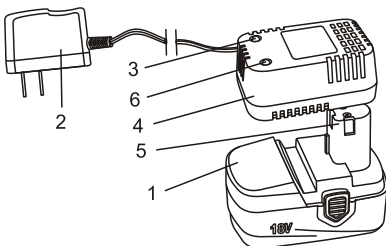

Fig. 1
1. Place the battery (1) in a dry location near a 120 V 60 Hz electrical outlet (Fig. 1)
2. Plug the battery charger transformer (2) into the 120 V 60 Hz wall receptacle.